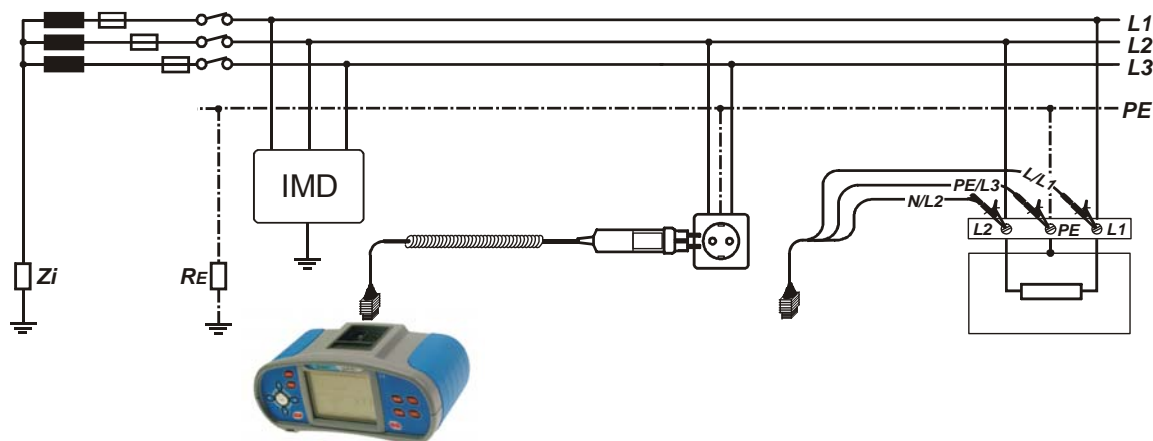

Figure D.5: Connection with plug commander and universal test cable
- ❑ **Connect** test cable to the instrument and tested item (see figure D.5).